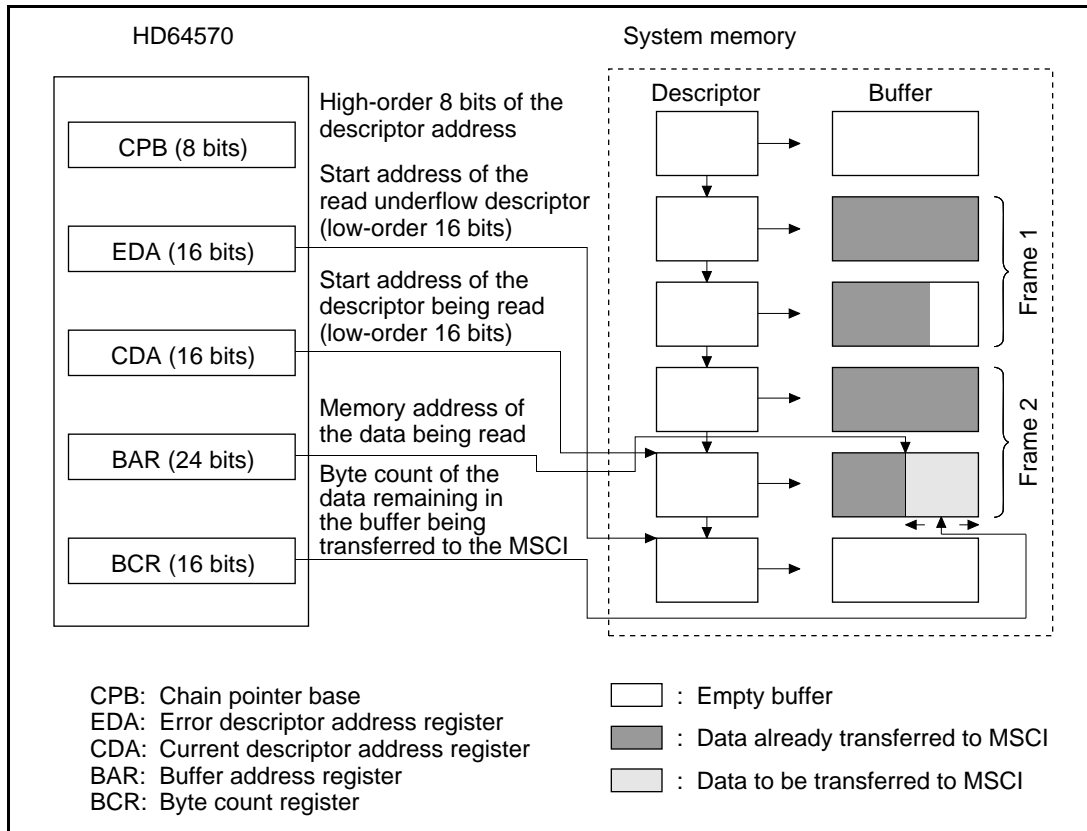

Figure 6.13 Memory-to-MSCI Chained-Block Transfer Mode
Memory-to-MSCI chained-block transfer mode is shown in figure 6.13.
The operation flow in memory-to-MSCI chained-block transfer mode is shown in figure 6.13. As shown in the figure, a DMA transfer starts with loading the contents of the descriptor specified by CPB and CDA into the SCA internal registers. The DMAC then transfers data to the MSCI transmitter from the buffer corresponding to the descriptor specified by CPB and CDA. At this time, the DMAC writes the 24-bit memory address of the buffer currently being read to the buffer address register (BAR) and the number of bytes remaining unread in the buffer to the byte count register (BCR). When data transfer starts, the DMAC writes the BP value of the corresponding descriptor to BAR and the data length (DL) value of the corresponding descriptor to BCR.